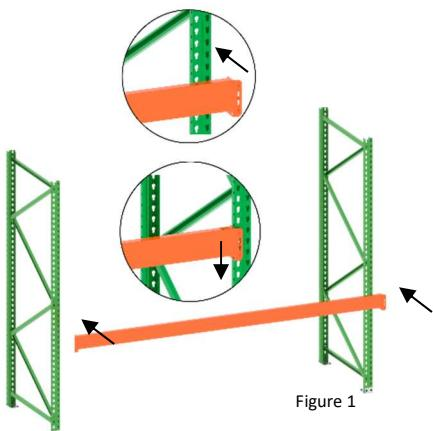

Figure 1
1. Figure 1: Place the Frame on the floor and support the base then slowly lift it up it can be help by a person or supported against a wall.